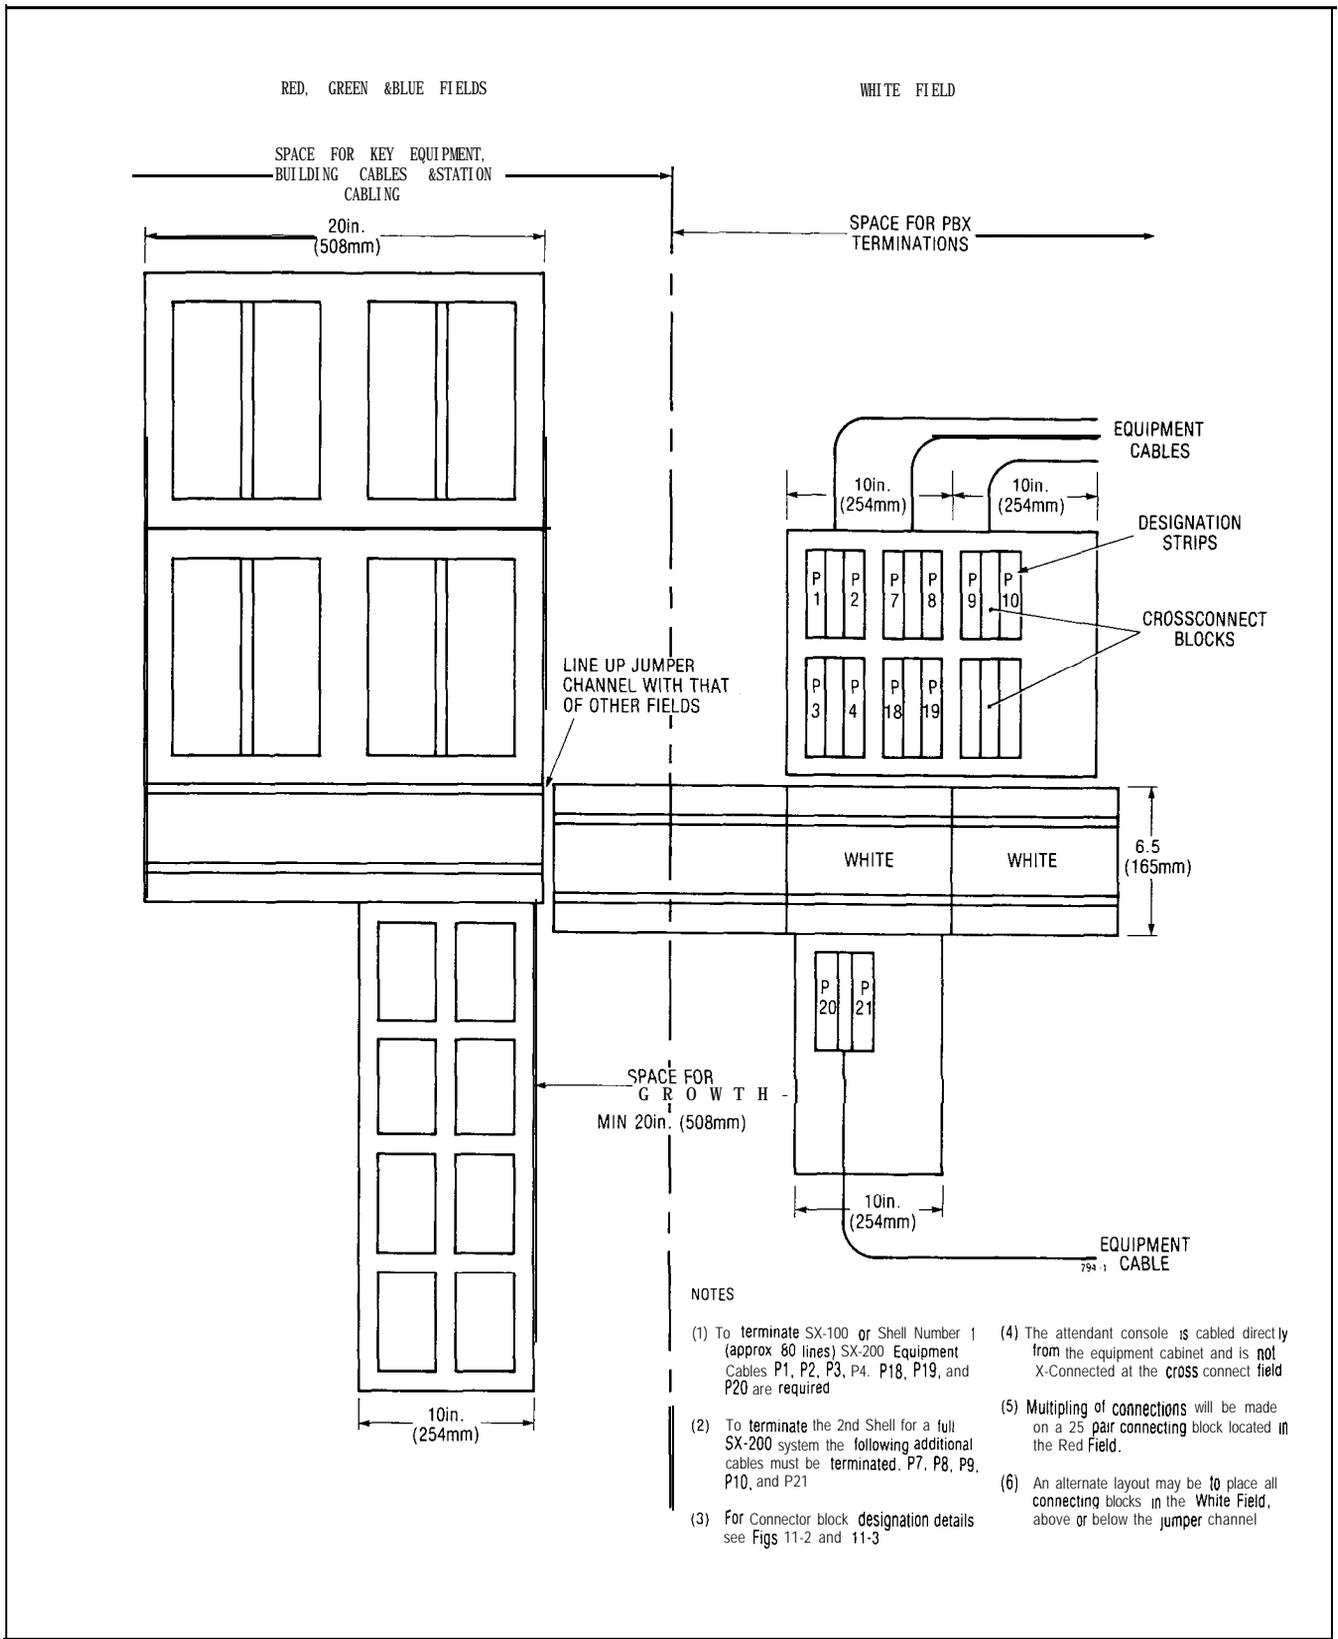

Fig. 11-1 Typical Terminal Layout
11.02 This part describes one method of identification. Modular cross-connecting fields are referenced to throughout this description as the SX-200 system crossconnection may show the cross connect field with other PBX equipment. This procedure for terminating the cables and equipment are shown in Table 11-1 and Fig. 11-1, 11-2 and 11-3.